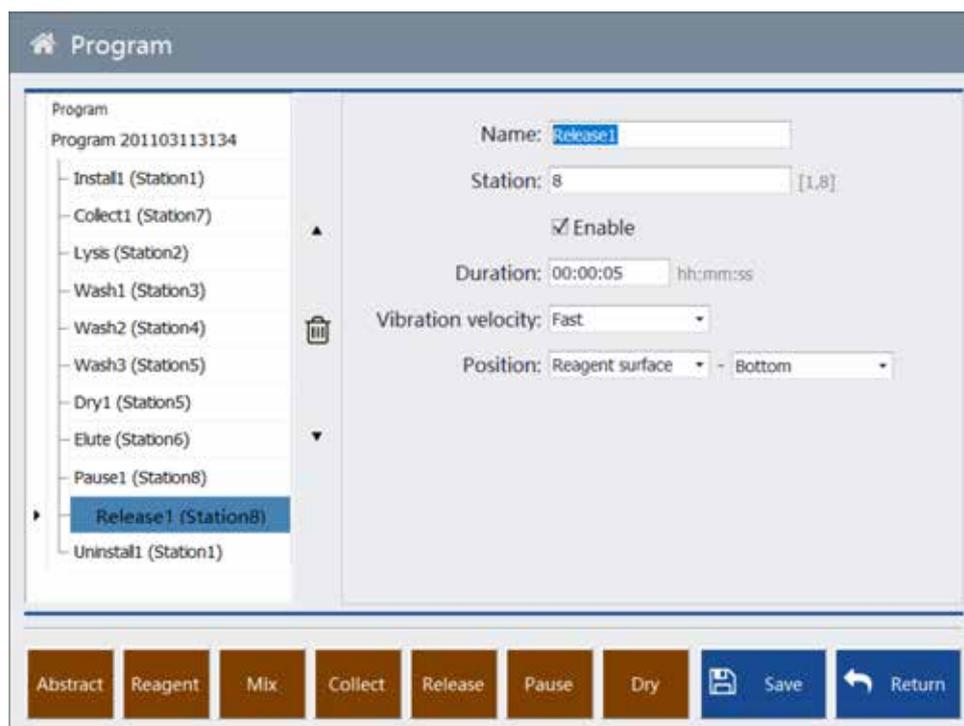

Figure 4-10 Release
**Release:** This function is mainly to release the magnetic beads on the magnetic rod sleeve into the kit, including the released position, time, speed settings, etc. As shown in Figure 4-10.